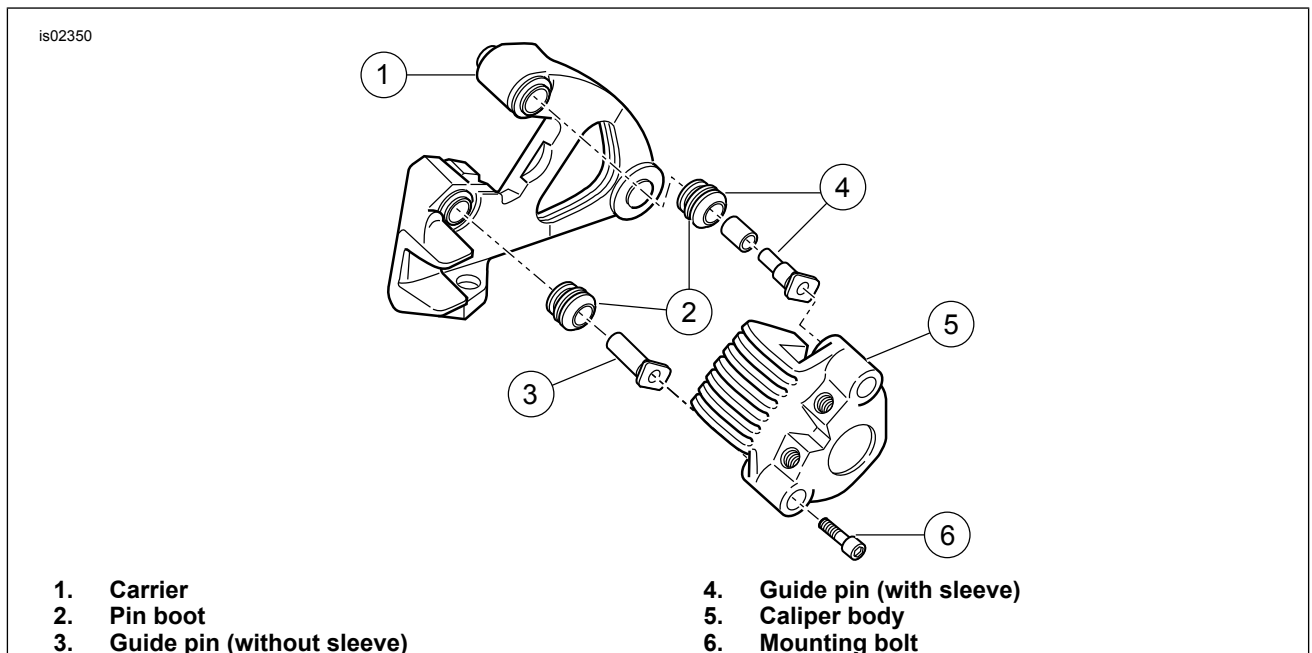

Figure 1. Guide Pin installation
1. See Figure 1. Use an Allen wrench and remove and discard mounting bolts (6) from caliper body (5). Lift caliper body from carrier (1) and secure out of your way before proceeding.
1. See Figure 1. Remove the guide pins (3 and 4) from the carrier bores.
3. Attach pin boot (2) to the guide pins and lubricate with silicone grease. Do not get lubricant on brake pads.
4. See Figure 1. Lubricate rubber sleeve included with kit with silicone grease and install on guide pin (4).
6. Securely locate pin boots (2) in carrier (1) groove.
7. Fit brake pads to the carrier (1).
8. Locate caliper body (5) on carrier. Ensure flats on guide pin align with recess in body casting.
9. Secure caliper to carrier using new mounting bolts (6) from kit. Tighten to 15–20 N·m (132–180 **in-lbs**).